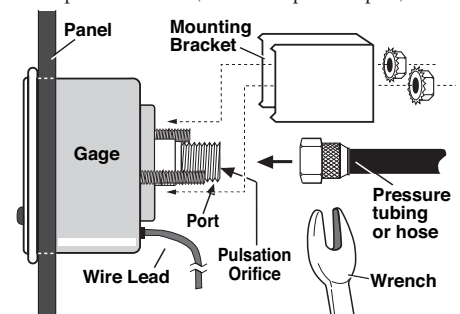

Figure 2
All models can be installed in a panel from 0.032 to 0.250 in. (1 to 6 mm) thick. Remove the mounting bracket and insert the gage from the front side of the panel. Replace bracket and secure it. Do **NOT** overtighten. (See Figure 2).
1. Pressure tubing is generally not provided. Use of good quality flexible pressure tubing/hose and fittings is strongly suggested. Use at least 3/16 in. (5 mm) I.D. tubing. If using copper or rigid tubing, install at least 12 in. (305 mm) flexible hose from the gage to the rigid tubing. This prevents damaging vibration from reaching the gage. For most models a pulsation orifice, within the pressure port, is provided and it is removable for cleaning (Figure 2).
1. To connect the high pressure tubing use at least 3/16 in. (5 mm) I.D. flexible pressure tubing/hose and fittings. If using copper or rigid tubing, install at least 12 in. (305 mm) flexible hose from the gage to the rigid tubing (to prevent damaging vibration to the gage, see **Figure 2**).